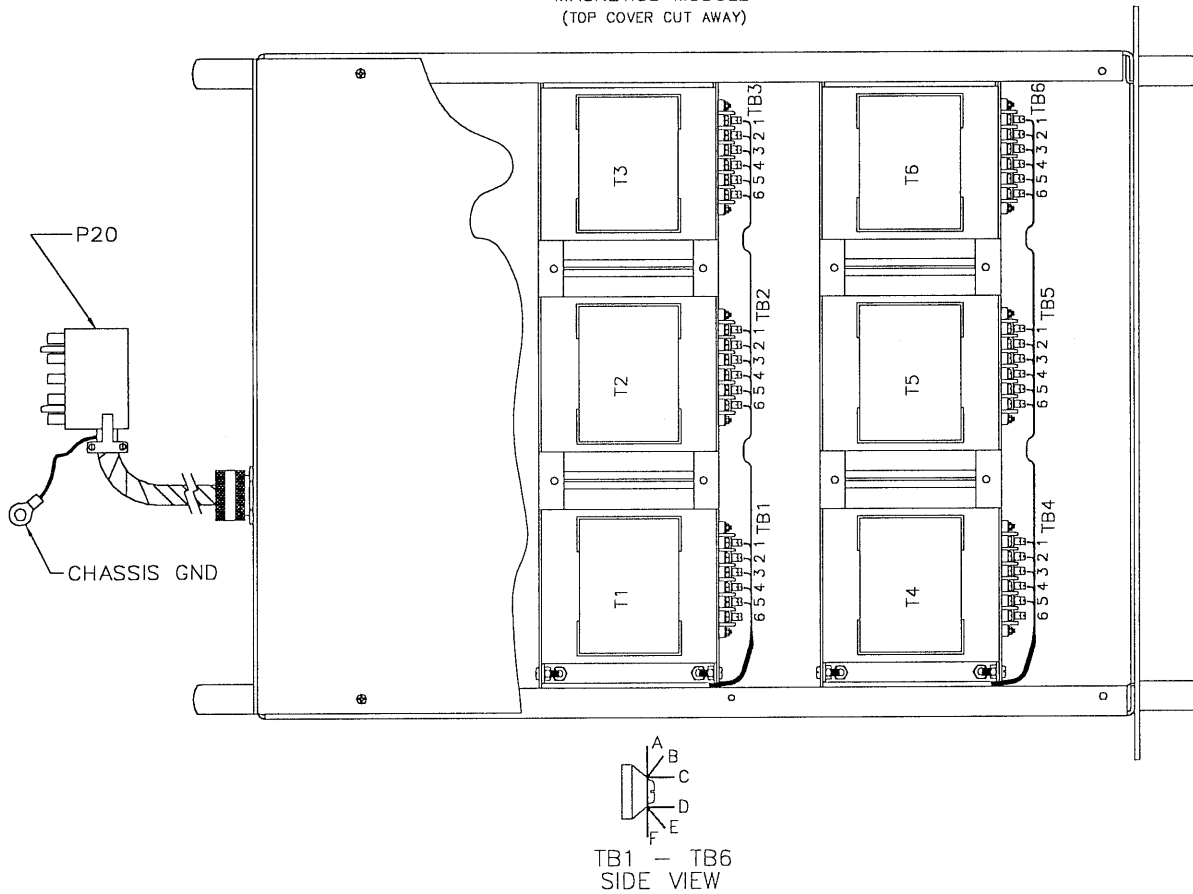

FIGURE 3.2.7 MODELS 140, 345, 360, 390, & 3120-AMX OUTPUT VOLTAGE CONFIGURATION
Refer to Figure 3.2.7 for location of components referenced below and range tap selection information.
- 2) Wire for 1.5:1 ratio as per wire table of Figure 3.2.7.